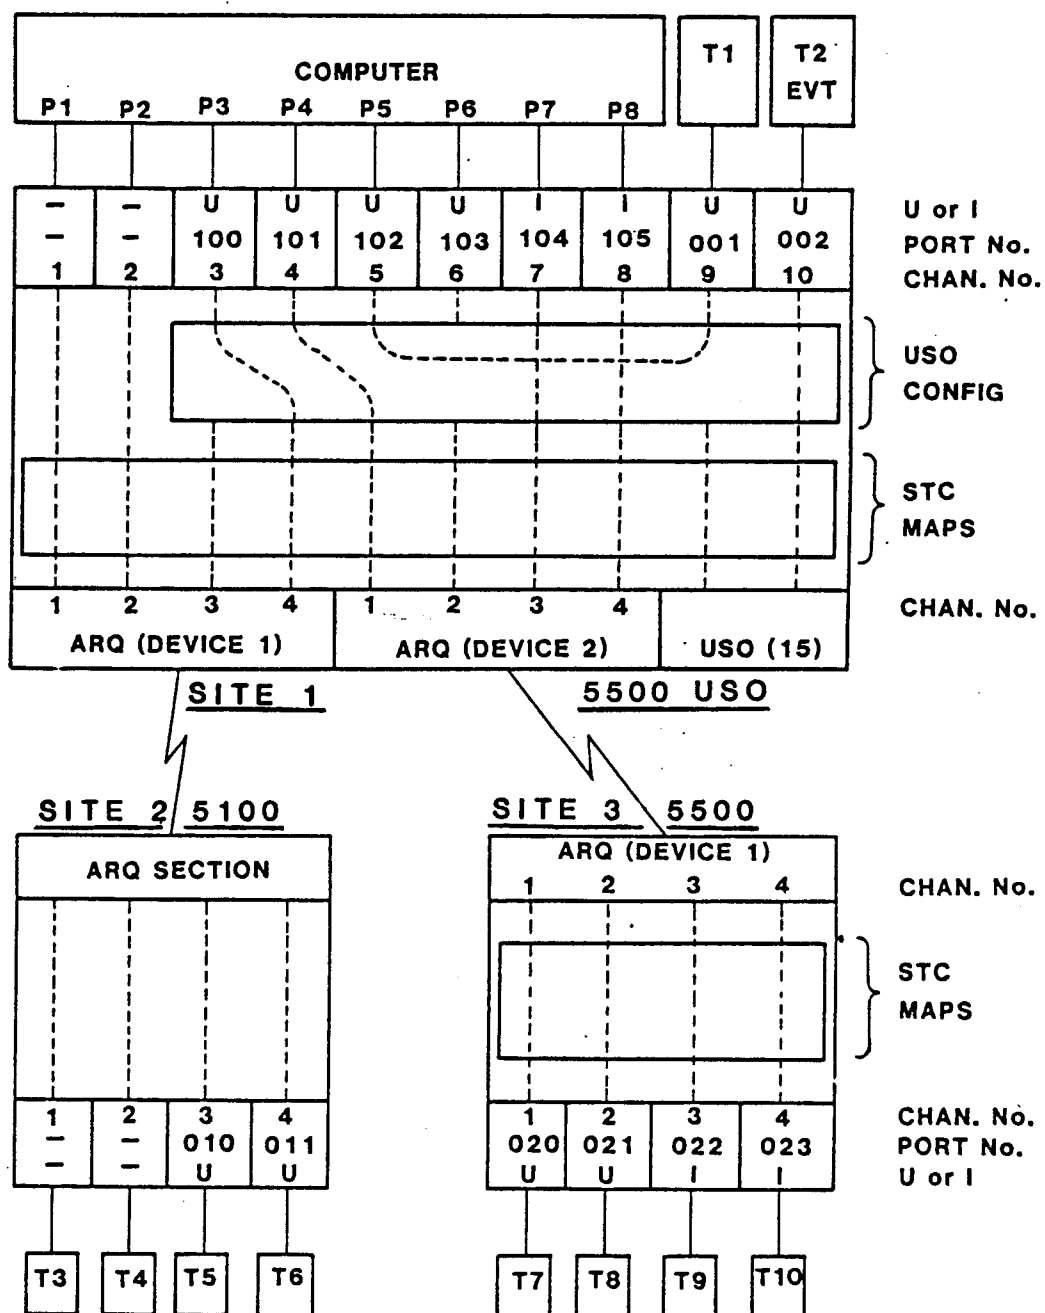

FIGURE 2-6
The Supervisor Station was then logged-off. A user at address 2 (T6) then made a connection to the computer (switched terminal to LINE and typed (CR), then after the Invitation to Select response, typed : 0(CR)), and the computer made connections to Address 3 and Address 1. A user at Port 21 (T8) was able to connect to the computer simply by switching the terminal to LINE. The connections are now as shown diagrammatically in Figure 2-6, and the display of all configured ports is: